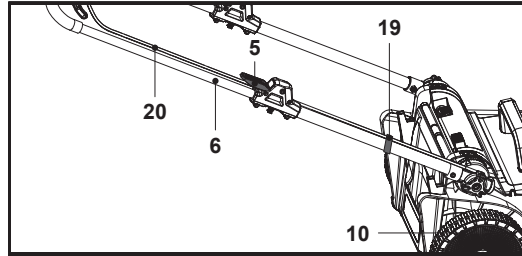

Fig. 4
- Attach the control cord (20) into the cord clip (19) which may be pre-installed under the locking lever (5) (Fig. 4).